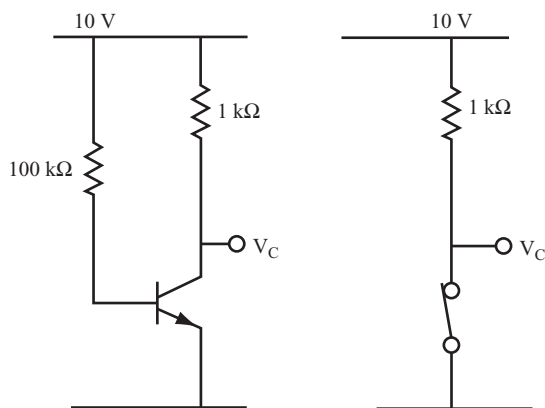

FIGURE 3.24
**24** Look at the two circuits shown in Figure 3.24 and compare their voltages at the point labeled  $V_C$ .